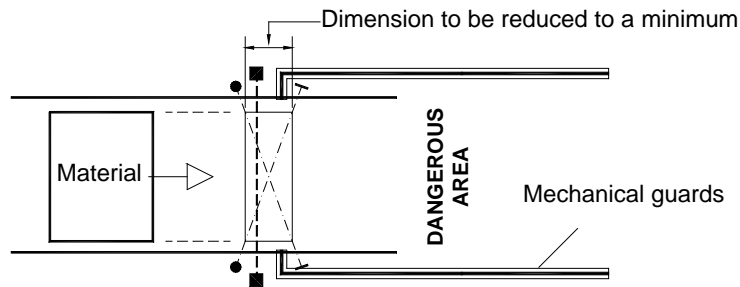

Figure 8
- the zone identified by the points of interception and clearing of the beams of sensors 1 and 2 by pallet **must be limited as far as possible (or suitably protected)** so as to avoid the possibility of accidental passing through the light curtain with Muting active (Figure 8).